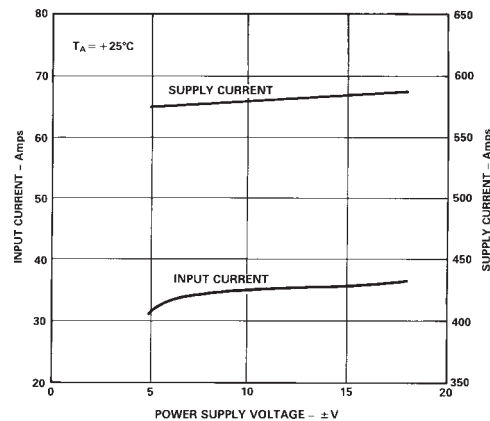

Figure 8. Input Bias Current and Supply Current vs. Supply Voltage
- The heat dissipation can be reduced initially by careful investigation of the application. First, if it is possible to reduce the required power supplies, this should be done since internal power consumption contributes the largest component of self-heating. To minimize this effect, the quiescent current of the AD515A has been reduced to less than 1 mA. Figure 8 shows typical input bias current and quiescent current versus supply voltage.